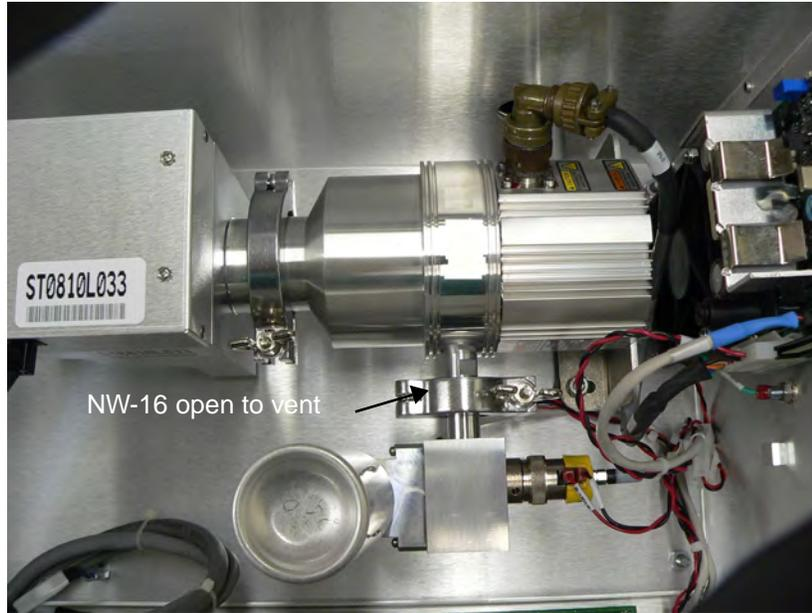

Figure B-76 NW-16 Vent
- Or crack the NW16 connection (Figure B-76) on the calibrated leak to bring the turbo to a controlled stop.